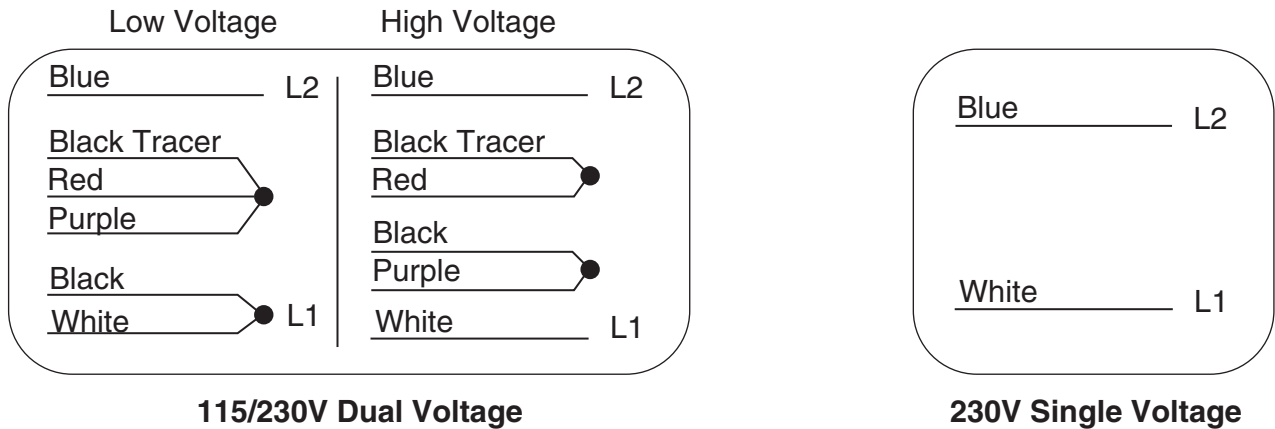

Figure 3 – 115/230V Dual Voltage and 230V Single Voltage TEFC Wiring Diagram
7. Connect current carrying conductors to terminals L1 and L2 under motor canopy. When replacing motor, check wiring diagram on motor nameplate against Figure 3. If the motor wiring diagram does not match either diagram in Figure 3, follow the diagram on the motor.
- IMPORTANT:** 115/230 Volt single phase models are shipped from factory with motor wired for 230 volts. If power supply is 115 volts, remove motor canopy and reconnect motor as shown in Figure 3. Do not try to run motor as received on 115 volt current.